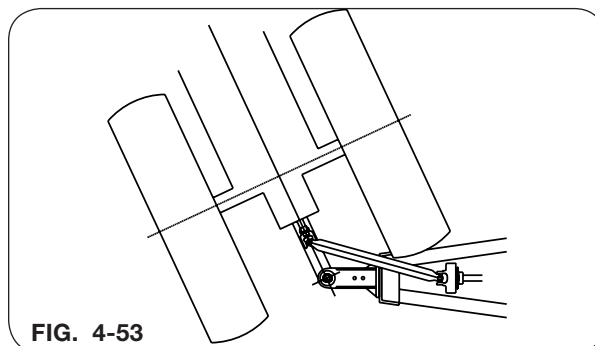

FIG. 4-53
6. Position the tractor to obtain the tightest turning angle, relative to the cart. (Fig. 4-53)